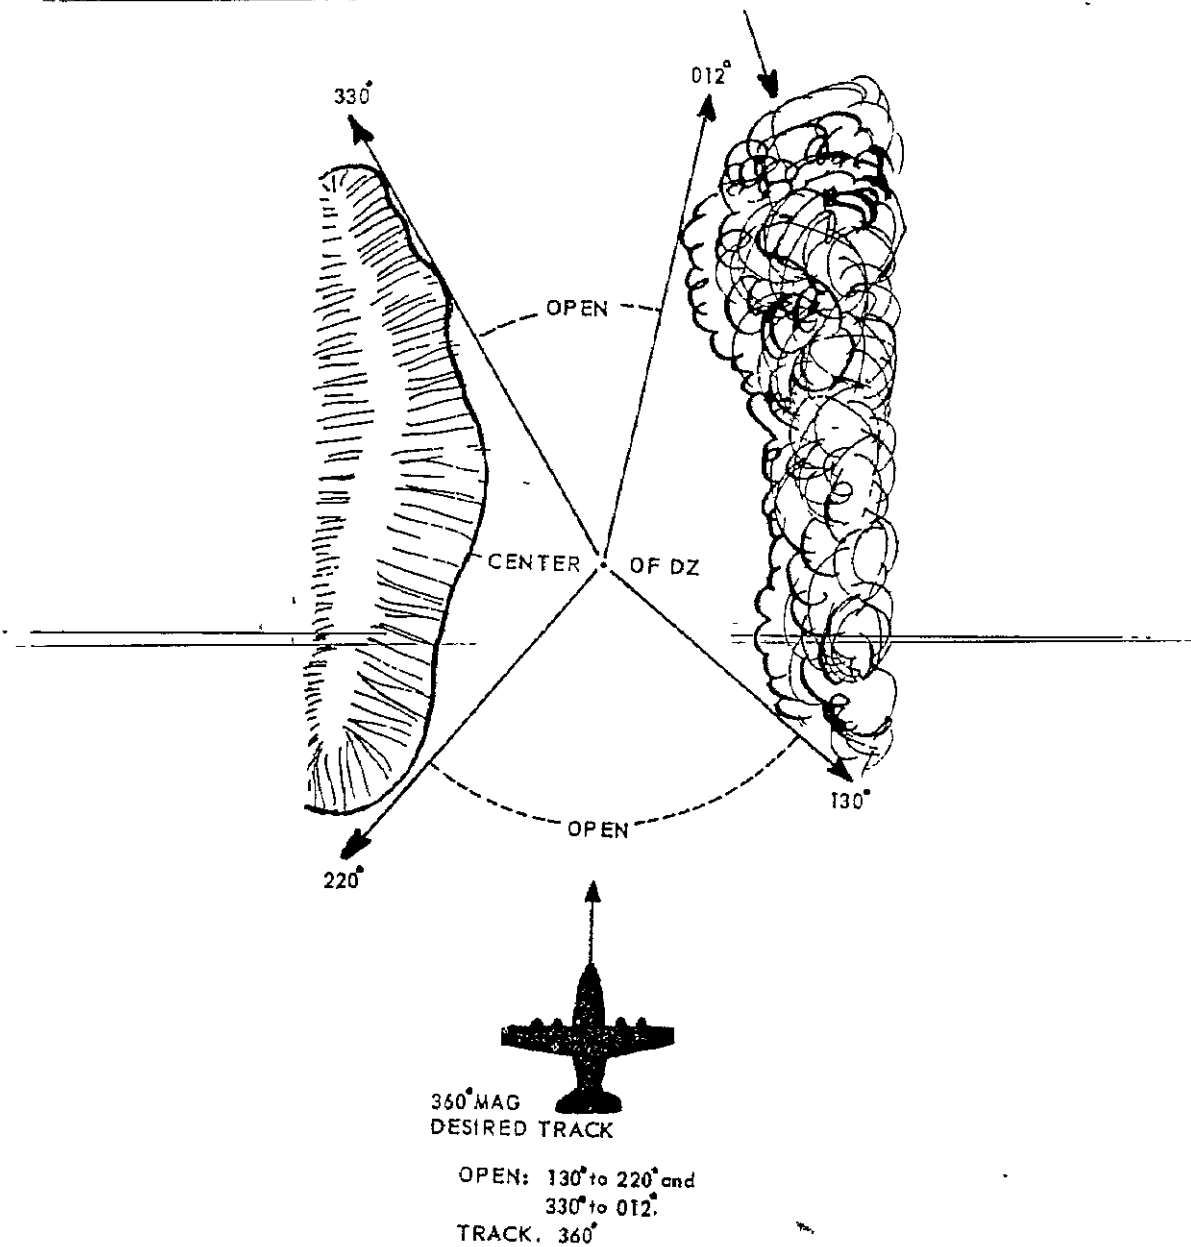

Figure 24. Computation of open quadrant and desired heading
(4) Track. Magnetic azimuth of required or recommended aircraft approach (figure 24).